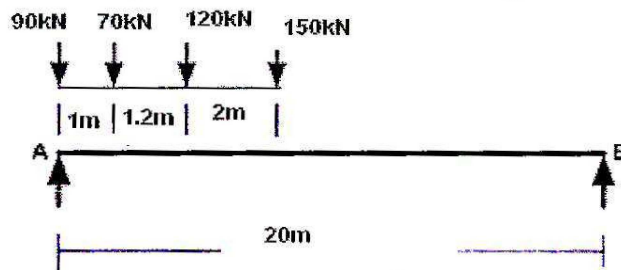

Fig. 11(b)
- (b) The train of loads crosses the girder AB as shown in Fig. 11(b). Find the maximum positive and negative end shear for the girder. Assume 90 kN load leading the train : [8]